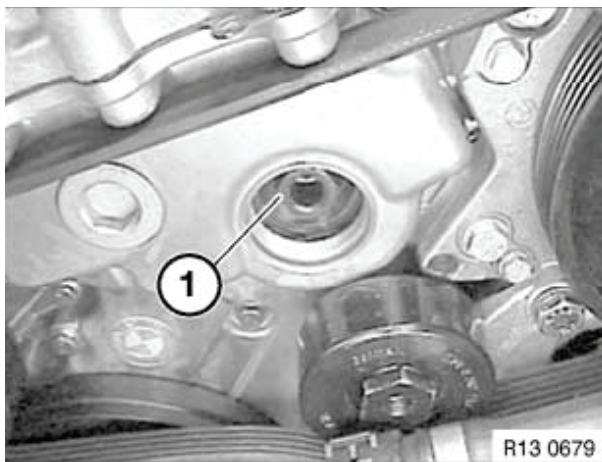

Figure 6-33
- Remove special tool OEM No. 13 5 191 and install nut (**Figure 6-33, (1)**). Tighten nut to 65 N·m (48 ft-lb).